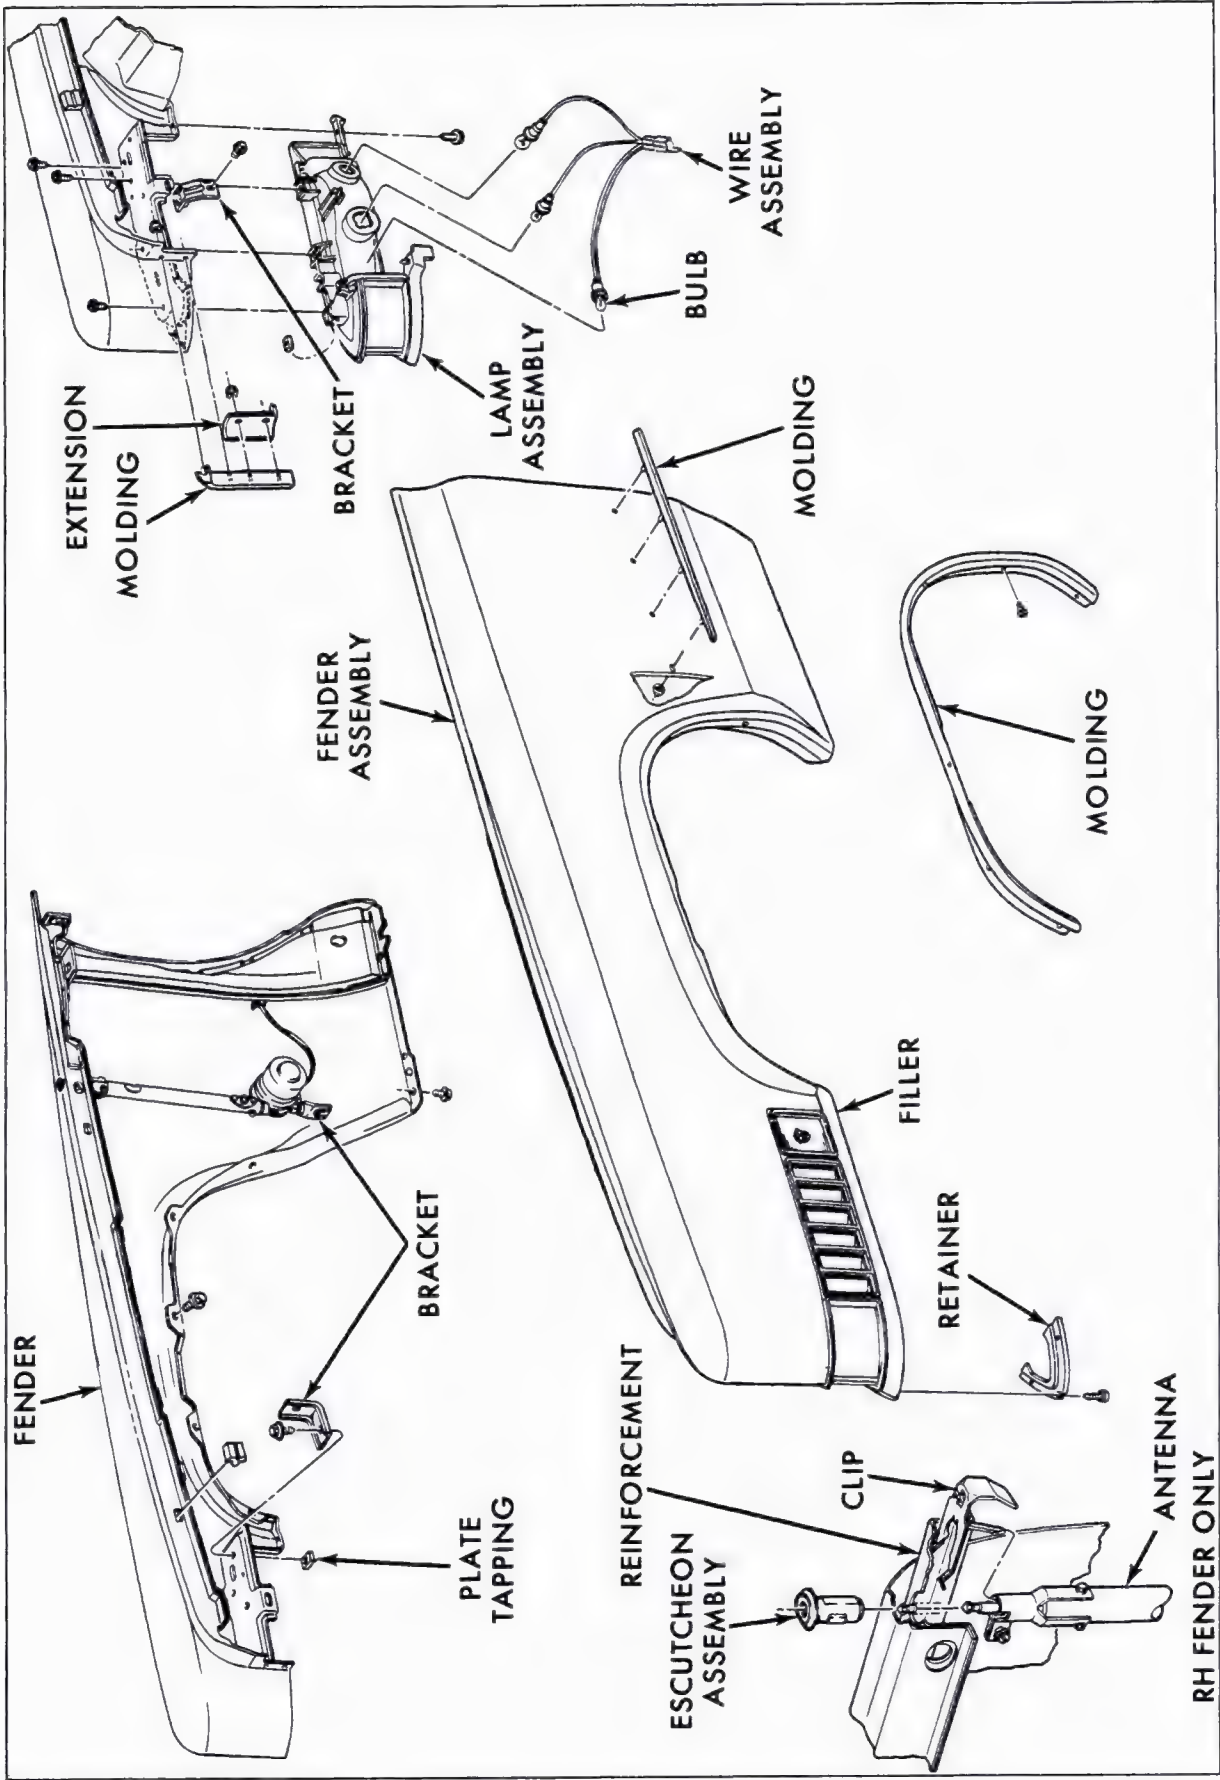

Fig. 11-4 Front Fender Disassembled
a. Removal (Fig. 11-4)
b. Installation (Fig. 11-4)